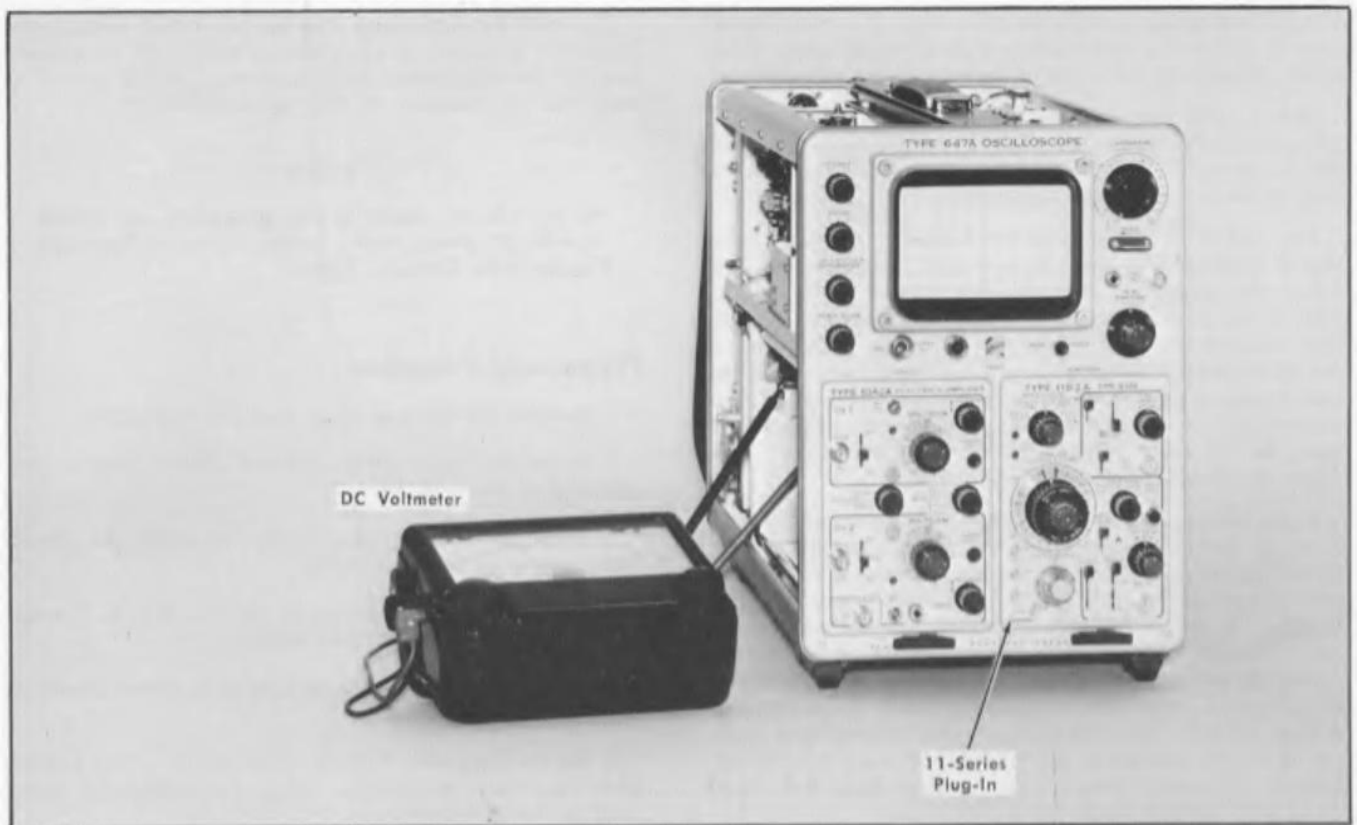

Fig. 6-2. Initial test equipment setup for steps 1 through 6.
**1. Adjust Channel 1 and 2 Common Mode Current Main, Amplifier Current and Main Amplifier Differential Current (Preliminary Adjustment) ①**
- a. Test equipment setup is shown in Fig. 6-2.